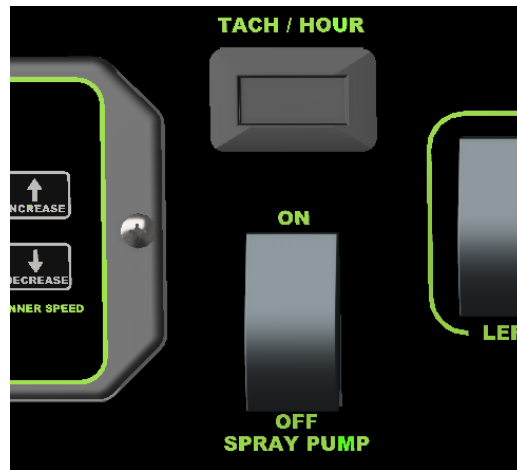

Fig. 5
**STEP 2:** Turn the spray pump on by pressing the “rocker switch” on the dash panel (Fig. 5)
- The nozzles can also be powered on & off by pressing the “green thumb switch” on the handle bar. (Fig. 5)
(Fig. 5)